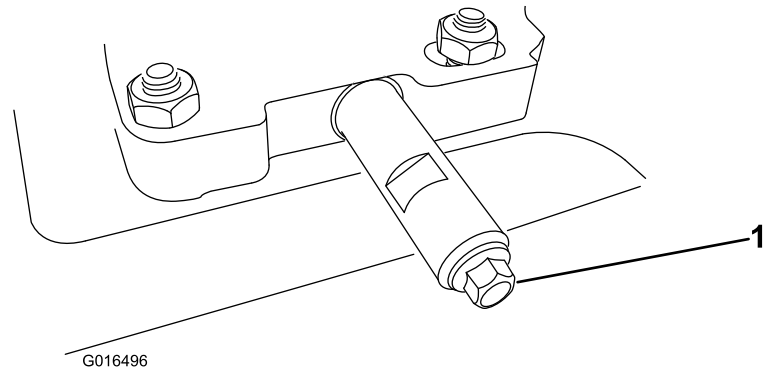

Figure 35
2. Clean the area around the oil-drain nut (Figure 35).